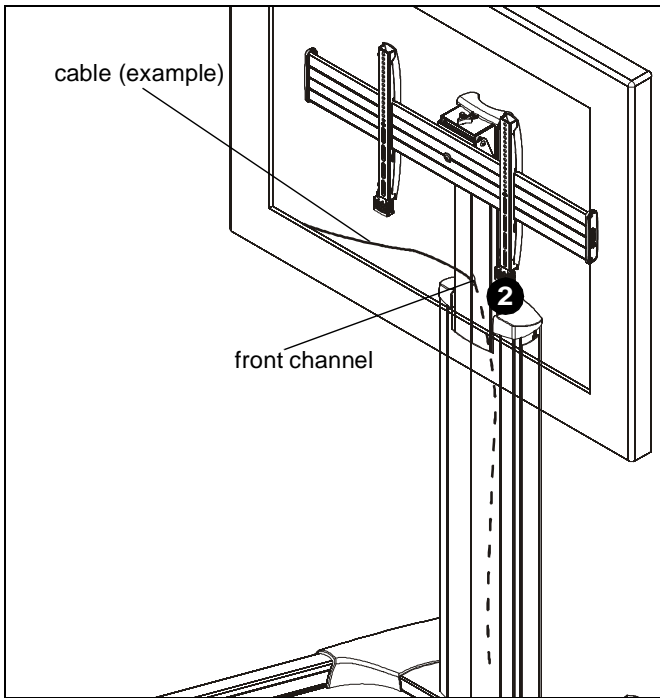

Figure 11
2. Route cables from display through front channel of column assembly. (See Figure 11)